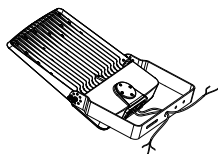

Figure 5-1
Step1: Pass the connecting wires of the fixture through the hole on the FM bracket, Figure 5-1;